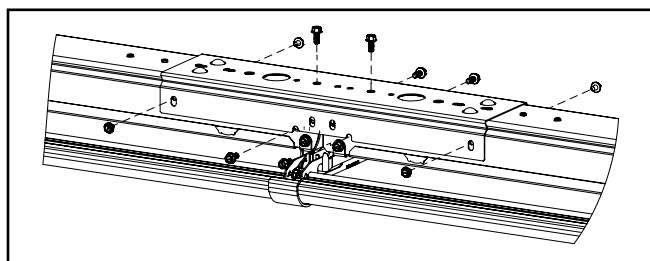

Figure 13
- Reinstall screws (Qty 6) removed earlier, and install an additional (Qty 4) screws from parts bag at the ends of the channel connector as shown. (Figure 13)